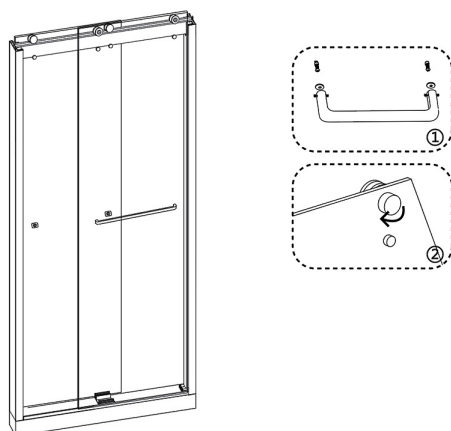

FIGURE 5
(See Figure 5). Install towel bars (1). Adjust roller until glass panel moves smoothly (2).